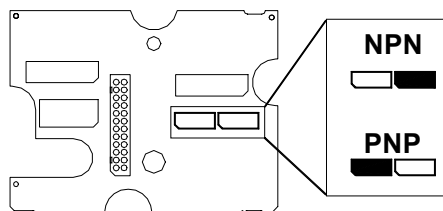

Figure 4 – Input selection for DS6100
2. Position the jumpers as desired, referring to Figure 4.